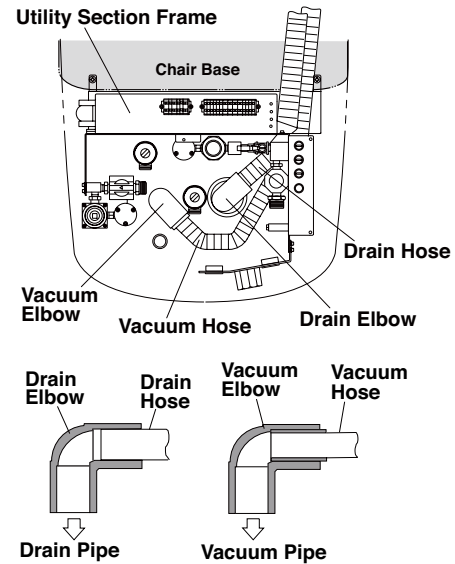

Fig.6-11 Drain Hose and Vacuum Hose Connection
(3) Drain Hose and Vacuum Hose Connection
- A Run the drain hose and vacuum hose through and under utility section frame. (Fig.6-11)
- C.Insert the drain hose elbow and vacuum hose elbow into each pipe. (Fig.6-11)